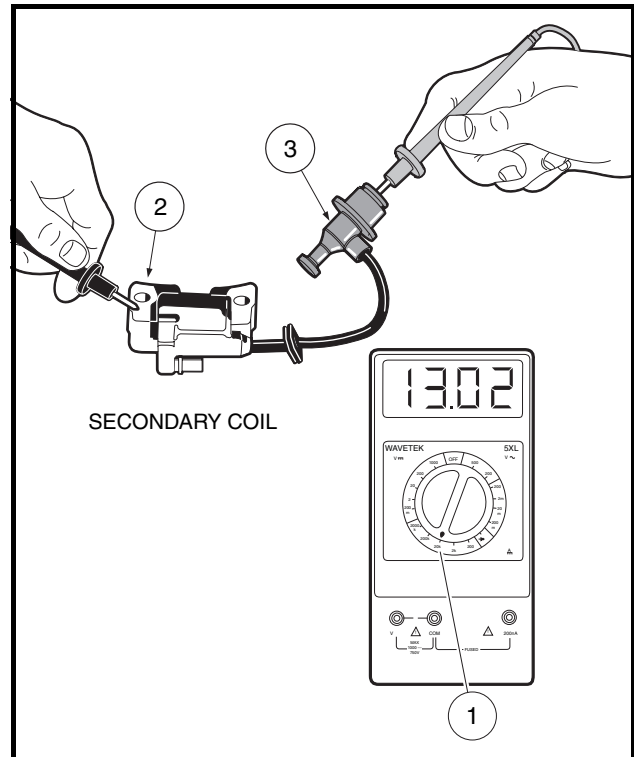

Figure 12-26 Secondary Coil and Cap Resistance – Bench Test
- 3.1. Place the red (+) probe of the meter into the end of the spark plug cap (3) that normally connects to the spark plug and place the black (-) probe on the core (2) (**Figure 12-26, Page 12-25**).